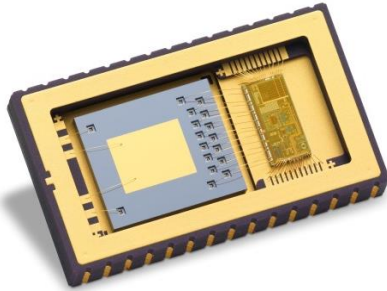

Figure 32 : Inner view of the package, showing the MEMS and IC
The sensing element (MEMS die), which is located on the left part of the Figure 32, is manufactured using Tronic's wafer-level packaging technology based on micro-machined thick single crystal silicon. The MEMS consists of two coupled sub-structures subjected to linear anti-phase vibrations. The structures are vacuumed at the wafer-level providing high Q-factor in the drive mode. The drive system is decoupled from the sense system in order to reduce feedback from sense motion to drive electrodes. The drive anti phase vibration is sustained by electrostatic comb drives. The sense anti phase vibration resulting from Coriolis forces is counter balanced by electrostatic forces. Differential detection and actuation are used for both drive and sense systems and for each sub-structure, keeping two identical structures for efficient common mode rejection.
The integrated circuit (IC), which is located on the right part of the Figure 32, is designed to interface the MEMS sensing element. It includes ultra-low noise capacitive to voltage converters (C2V) followed by high resolution voltage digitization (ADC) for both drive and sense paths. Excitation voltage required for capacitance sensing circuits is generated on the common electrode node. 1-bit force feedbacks (DAC) are used for both drive and sense system actuation.